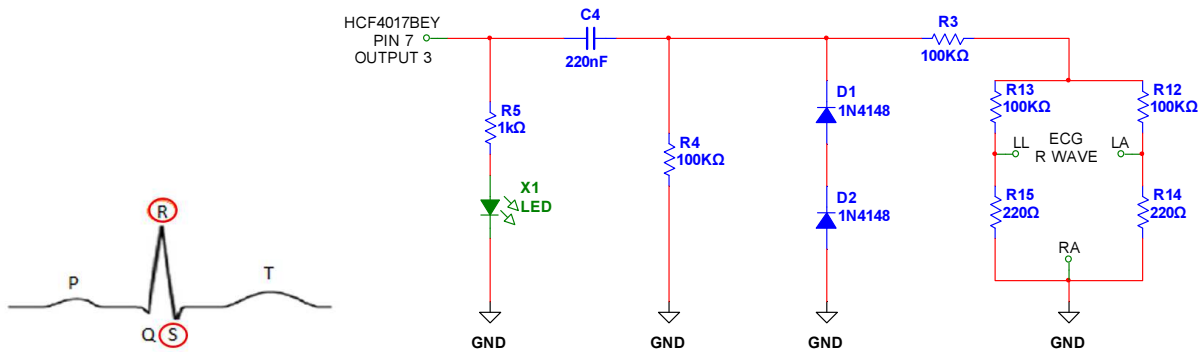

Figure 14 – R, S wave output circuit.
Figure 14 shows the circuit that supplies the R and S wave segment.
13. What is the reason to use the LED X1 in the circuit of Figure 14?
16. What is the reason to use the diodes D1 and D2 in the circuit of Figure 14?